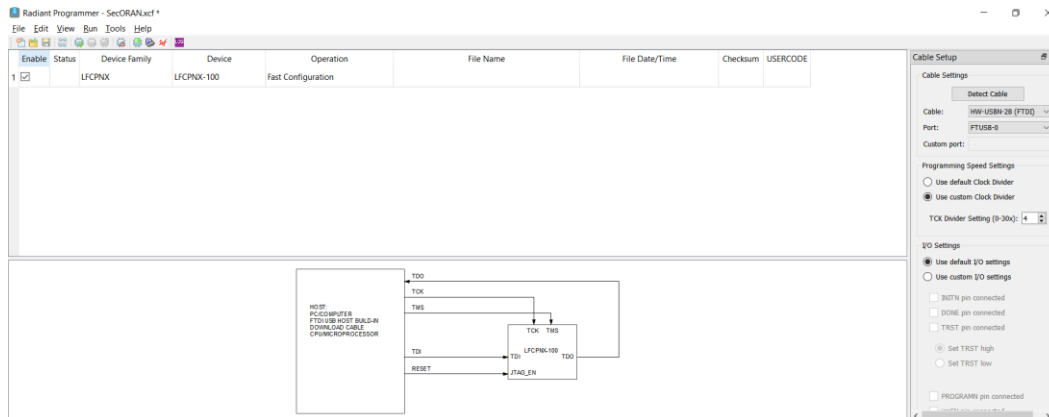

Figure A.3. Radiant Programmer- Device Selection
- In the main interface, select **LFCPNX** for **Device Family** and **LFCPNX-100** for **Device** or detect automatically as shown in Figure A.3.